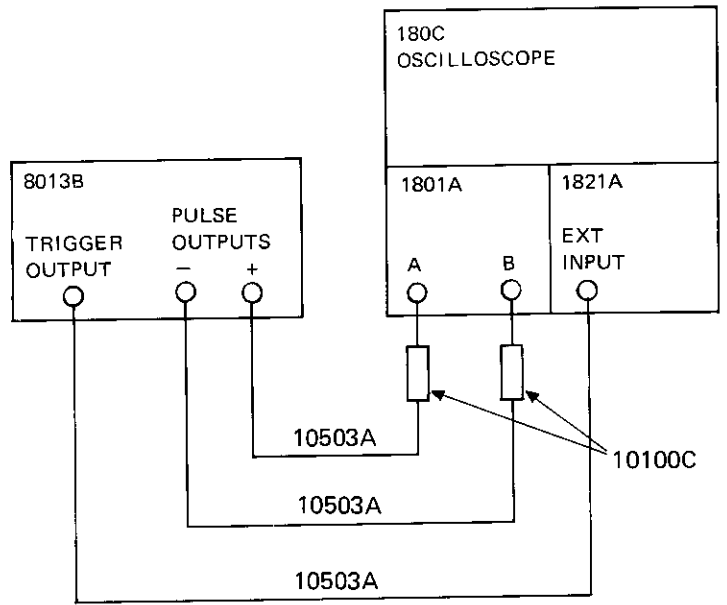

Figure 3-4. Initial control settings and test equipment
3-14 In this mode the 8013B requires no external signal to produce an output signal. Rate, delay, width, amplitudes etc. are all adjustable from the front panel controls. The initial control settings (also shown in Figure 3-1) are given to assist someone unfamiliar with the operation of the 8013B. The positive and negative pulse outputs (17) and (18) and the TRIGGER OUTPUT (21) should be connected to an oscilloscope using a 50 ohm system (as shown in Figure 3-4). The oscilloscope (an HP 180C mainframe with 1801A and 1821A plug-ins) should be set with the sweep time at 20μ s/div and the sensitivity at 2V/div.
- PULSE PERIOD (2) .1m-10m
- VERNIER (3) CCW
- PULSE DOUBLE/NORM (4) NORM
- PULSE DELAY (5) 1μ-.1m
- VERNIER (6) CCW
- PULSE WIDTH (7) 1μ-.1m
- VERNIER (8) Center
- AMPLITUDE (9) 2.0-5.0
- VERNIER (10) CW
- OFFSET VERNIER (11) Center